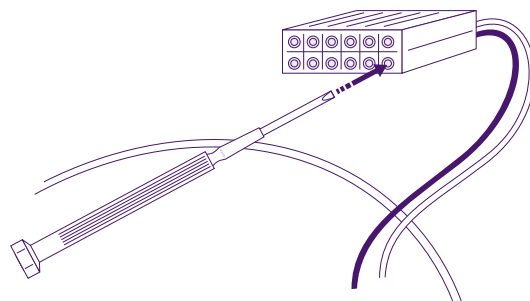

Figure 12. Power connector.
- Disconnect the black wire and the white wire by inserting a 1/32" screwdriver into the corresponding slots in the power connector (see Figure 12).